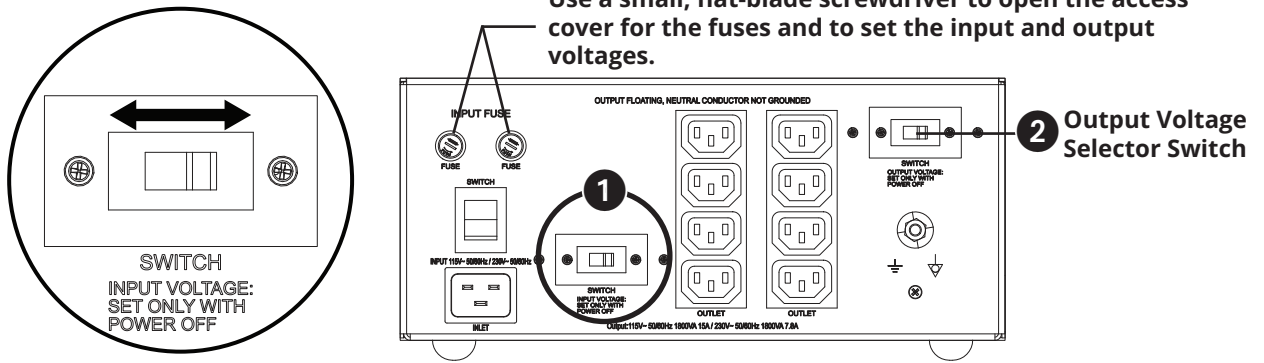

Figure 3
Input voltage selection is made via the selector switch labeled "Input Voltage" ① (Figure 3). Separate fuse holders are available for the IS1800HGDV. You will have to insert the correct fuse value depending on input voltage. For correct fuse value, see the table in section 3.1.5. Output voltage selection is made with the output voltage selector switch ②. The Input/Output voltage selector switch section comes equipped with a plate cover that has a small opening. Use a small, flat-blade screwdriver to access the small opening to set the input/output voltage.